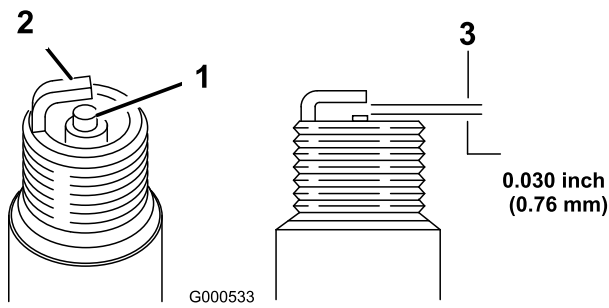

Figure 30
1. Look at the center of the spark plug (Figure 30). If you see light brown or gray on the insulator, the engine is operating properly. A black coating on the insulator usually means the air cleaner is dirty.
2. Check the gap between the center and side electrodes (Figure 30). Bend the side electrode (Figure 30) if the gap is not correct.